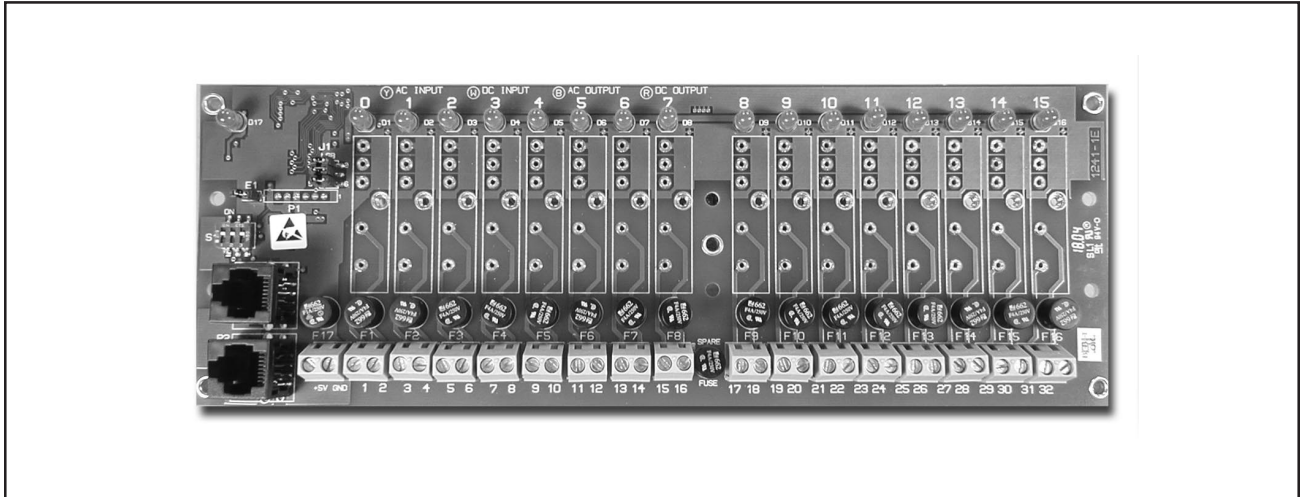

Figure 1.4-1
- isoLynx SLX101 Digital I/O Backpanel, containing two high speed serial I/O ports and 16 digital I/O channel module sockets. Pictured in Figure 1.4-1 is a representative model of 2 models.